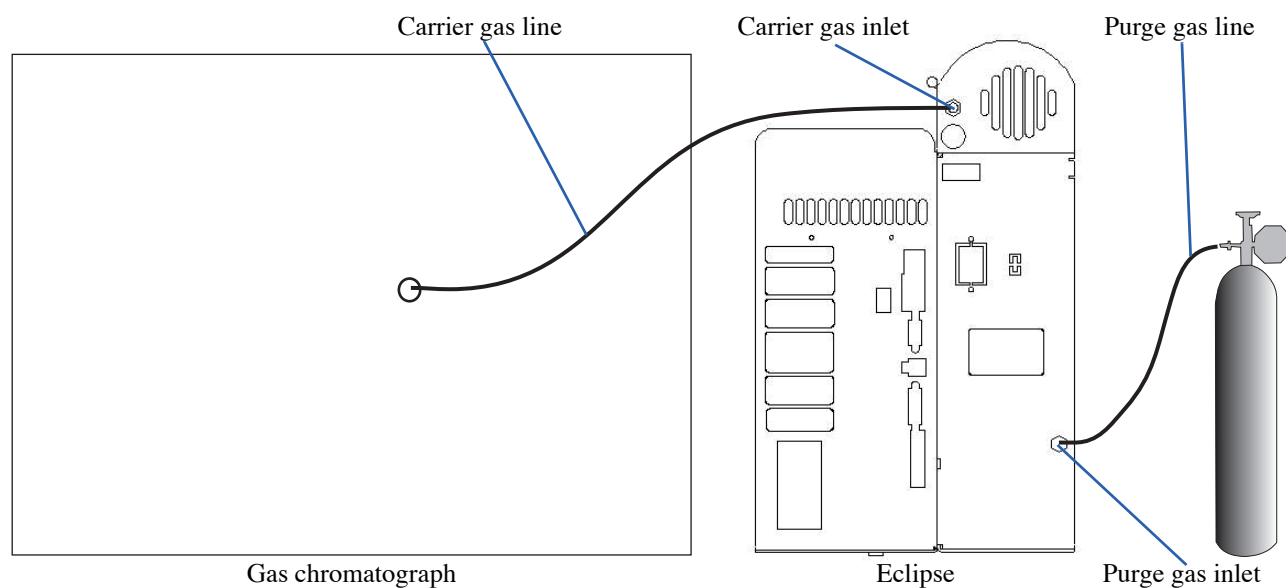

Figure 3.22. Connecting the gas lines
1. Connect the $\frac{1}{8}$ " purge gas line (PN 111427) between the purge gas source and the receptacle marked "Purge Gas Inlet" on the Eclipse back. Use the standard $\frac{1}{8}$ " stainless steel Valco® nut and ferrule provided or use the Swagelok® nut (PN 128108) and ferrule (PN 128082) in the Eclipse startup kit (Figure 3.22).